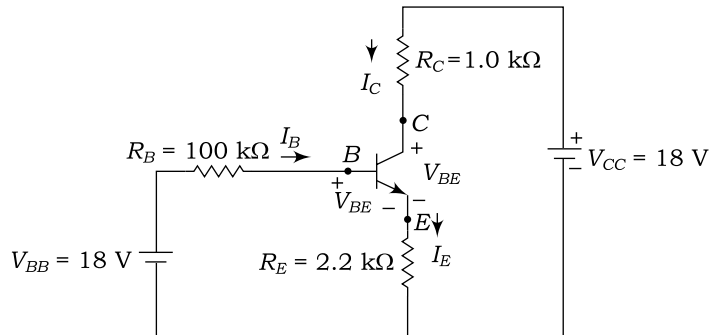

Fig. 2.116
43. Determine the base current, collector current, and collector to emitter voltage of a biasing circuit as shown in Fig. 2.116. Assume $V_{BE} = 0.6 \text{ V}$ and $\beta = 95$.